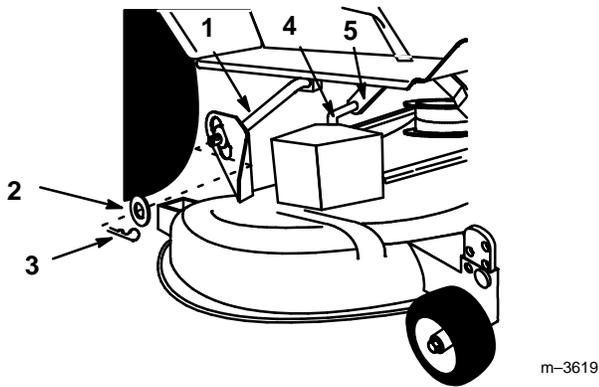

Figure 13
- Remove 2-9/16" hairpin cotter and 1/2" washer from rear link and remove from attachment lift (Fig. 13).
- Remove (2) 3-3/8" hairpin cotters and (2) 3/4" washers from rear lift arms (Fig. 13).